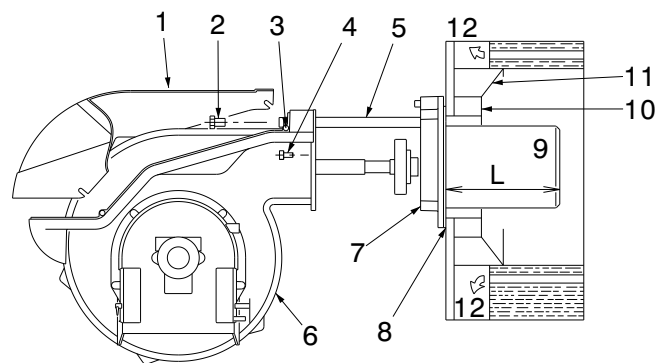
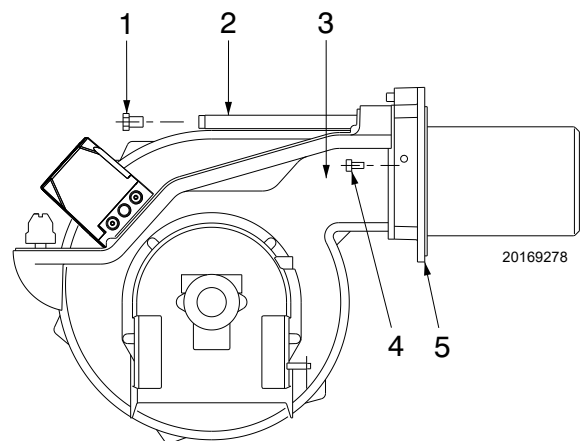

Fig. 12
Fig. 16
For boilers with a water-cooled front piece, a refractory lining 10)-11)(Fig. 12) is not necessary, unless expressly requested by the boiler manufacturer.
Finally remount the burner 3)(Fig. 16) on the slide bars 2) and slide it up to the flange 5), **keeping it slightly raised to prevent the flame stability disk from pressing against the blast tube.**
- open the burner on the slide bars 2)(Fig. 16) as shown in Fig. 12 on page 17.